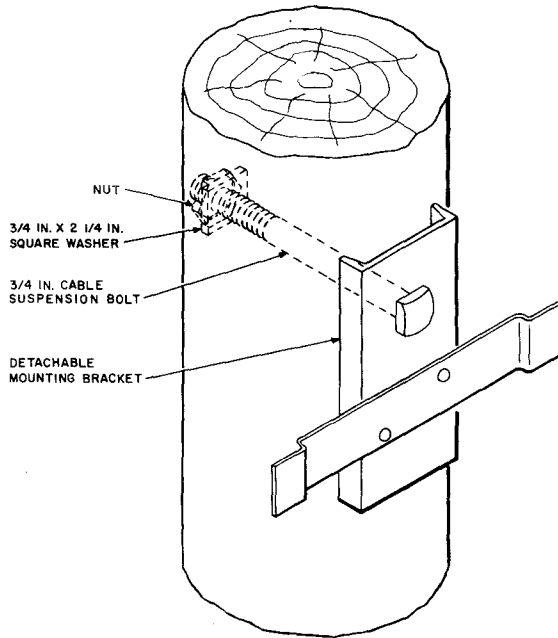

Fig. 6—Securing Detachable Mounting Bracket
(1) Secure mounting bracket to pole as shown in Fig. 6, exercising care to level the cross member.
(2) Level the terminal, viewing it from the front, and fasten the bracket to the pole with a 3/8- by 4-inch drive screw. Where the terminal is mounted on a masonry wall, attach to the wall by means of a 3/8- by 2-inch hammer drive anchor.